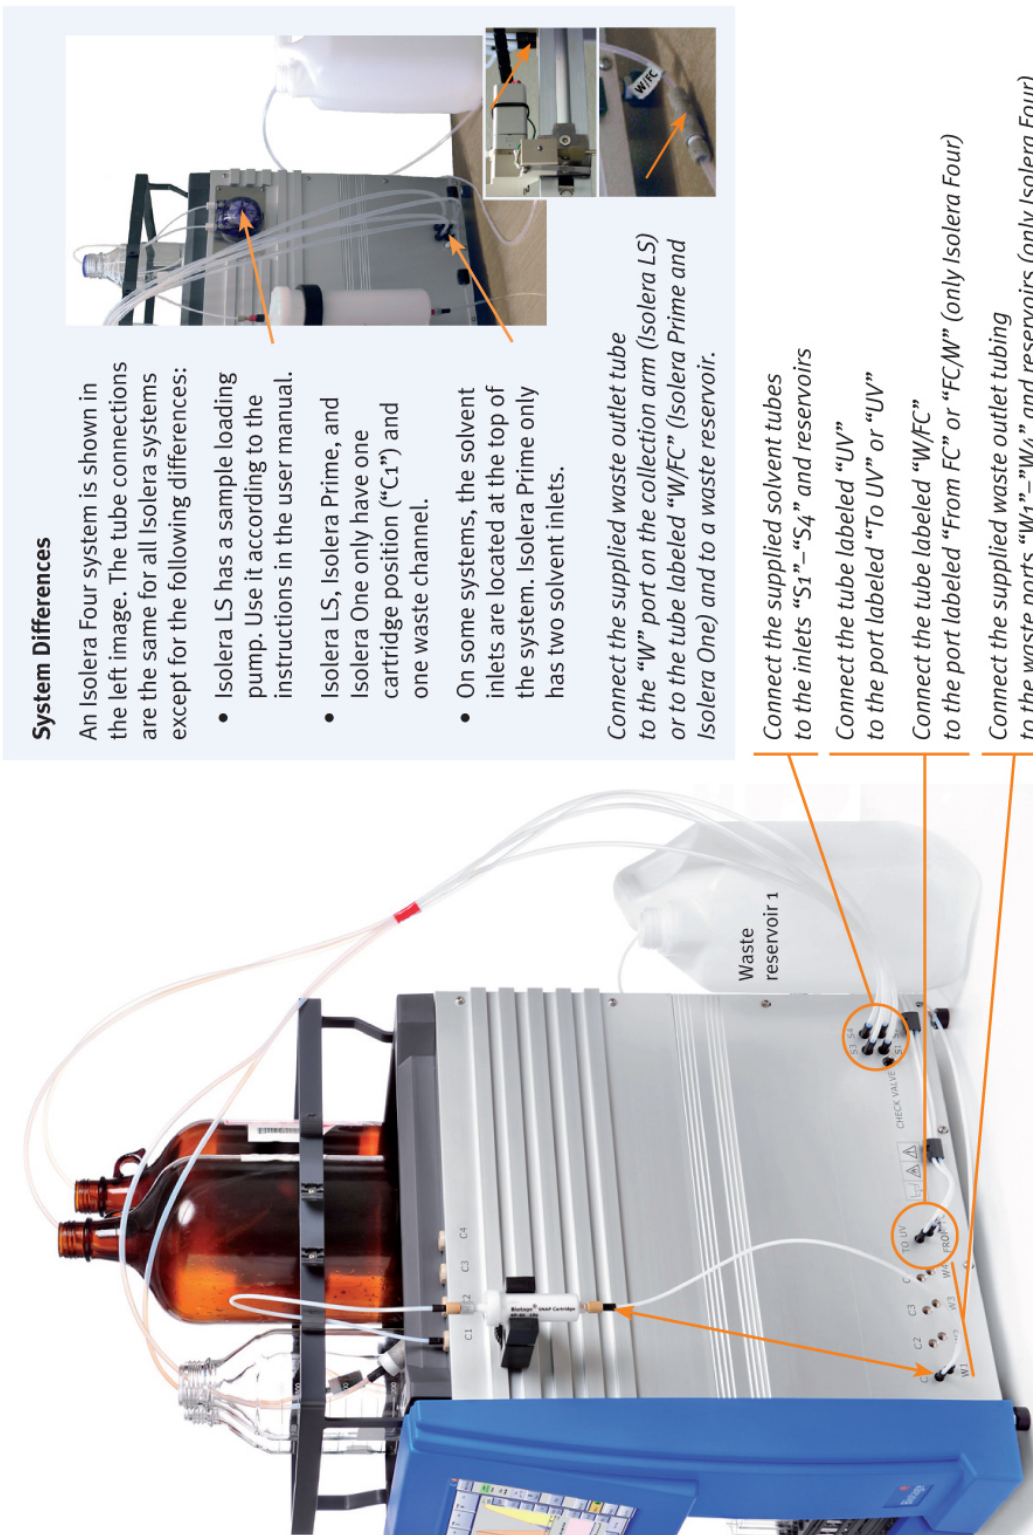

Figure 4-10. Tube Connections
2. Load the cartridge (see Figure 4-10 on page 4-16) and collection rack(s) that you want to use.
- c. If the run is to be performed without equilibration and you want to inject a liquid sample into the cartridge, you can either use a syringe or the sample loading pump (only available on Isolera LS). See Table 4-3 on page 4-21 for cartridge loading capacity. To use the sample loading pump: Press **Load Sample** and read and follow the instructions in the **Load Sample** dialog. When you are done, press **Close** and connect the cartridge inlet tubing to the cartridge's inlet (see Figure 4-10). If you want to reuse the peristaltic pump tube in the next run (not recommended), clean the tube with methanol as soon as possible. Note that the sample loading pump can be cleaned while a purification is in progress. For more information and instructions, see page 5-5.
- a. Load your sample; see "Sample Loading Methods for SNAP and SNAP Ultra Cartridges" on page 1-4. If a liquid sample is used, press **Load Sample...** at the **Status** tab to enable sample injection. The **Load Sample** dialog opens. To load a sample using the sample loading pump (only available on Isolera LS), read and follow the instructions in the dialog. When you have finished loading the sample, press **Close** and connect the cartridge inlet tubing to the cartridge's inlet (see Figure 4-10). See Table 4-3 on page 4-21 for cartridge loading capacity.